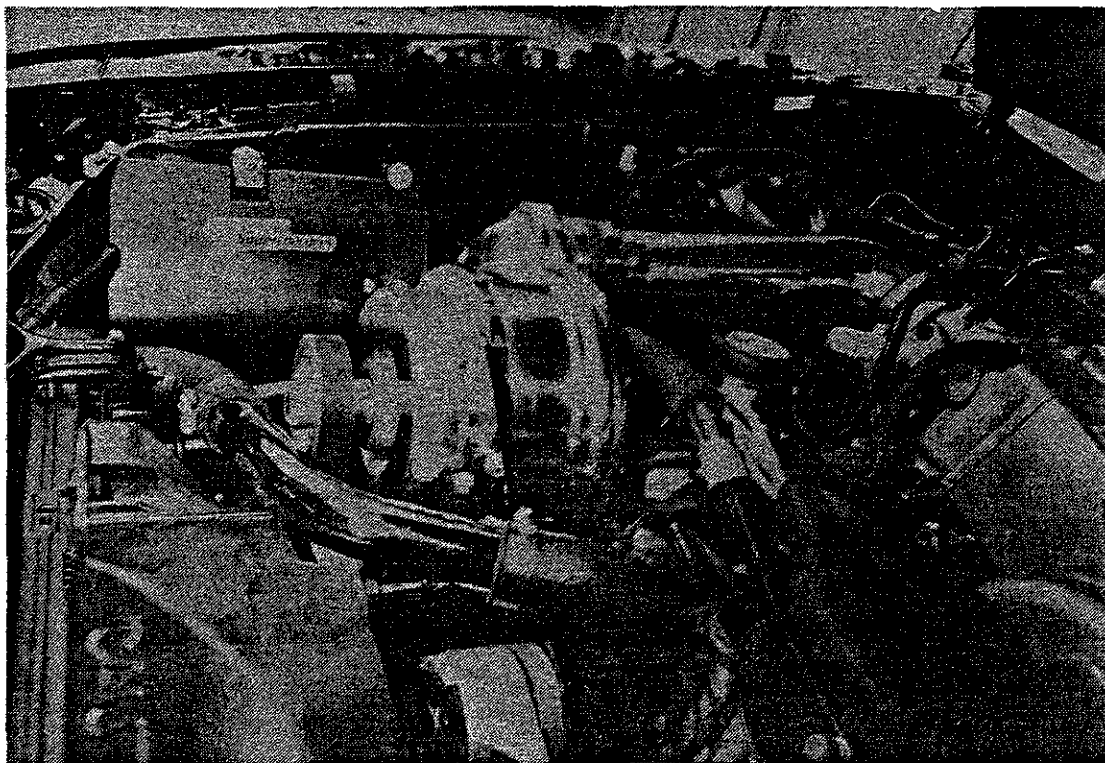

FIGURE 18
34. Replace remodeled Radiator Hose and clamp tightly as shown in Figure 18.